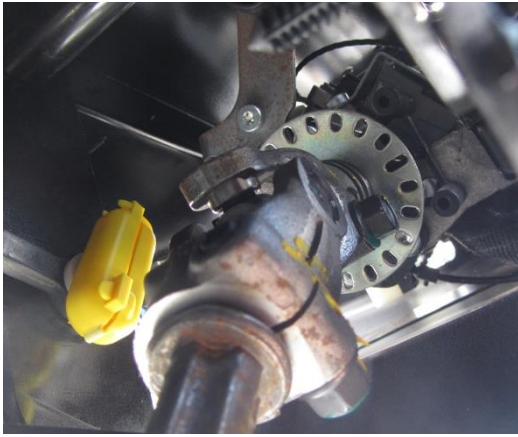

Figure 34. Encoder Wheel Underneath Dash
1. Find the encoder wheel situated underneath the dash as shown in Figure 34.